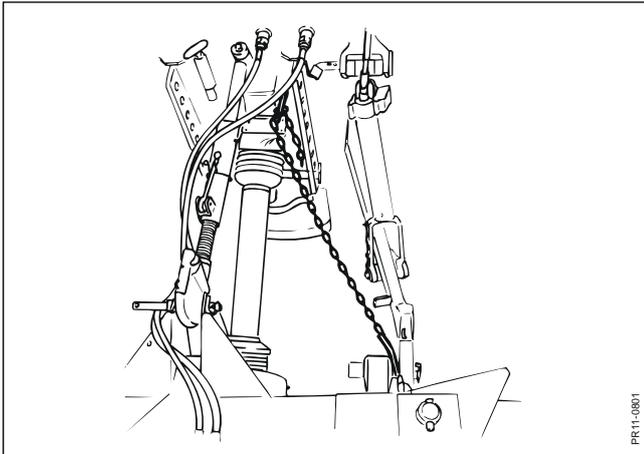

Fig. 2-13
- Fig. 2-13:** Connect the lift arms of the tractor to the coupling points of the machine. At the same time, mount the bottom stop chain on the right lift pin and its chainlock at the top link fix point.